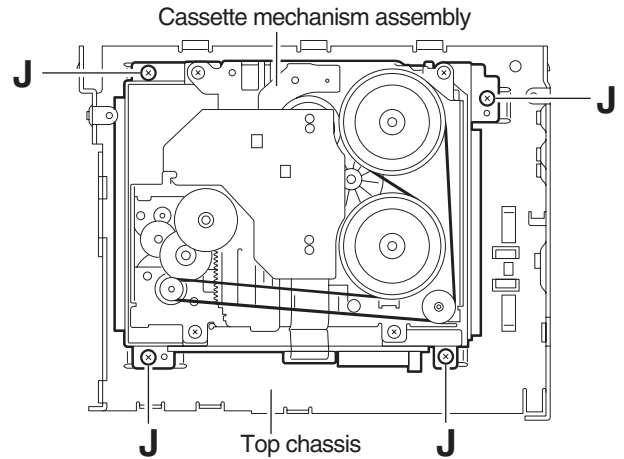

Fig.8
3.1.7 Removing the cassette mechanism assembly (See Fig.8)
3.2.4 Removing the side bracket assembly (See Fig.8 to 10)